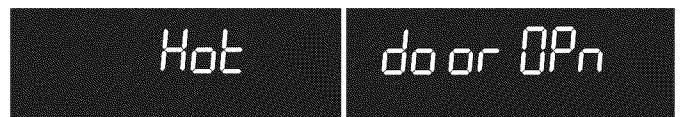

Figure 41: Hot oven door locked (L) door open message (R).
1. Cln message will turn off and Hot will appear in display window (See Figure 41).
2. If Self Clean has heated the oven to a high temperature, allow enough time for the oven to cool and the **door Opn** message to appear (See Figure 41). When this message turns off the oven door may be opened.